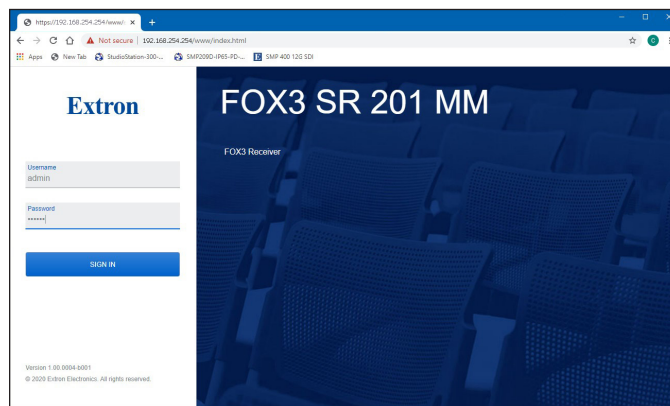

Figure 32. Network Password Prompt
5. The FOX3 is password protected. Enter a user name entry (**user** or **admin**) in the **Username** field and the password in the **Password** field when prompted (see figure 32).